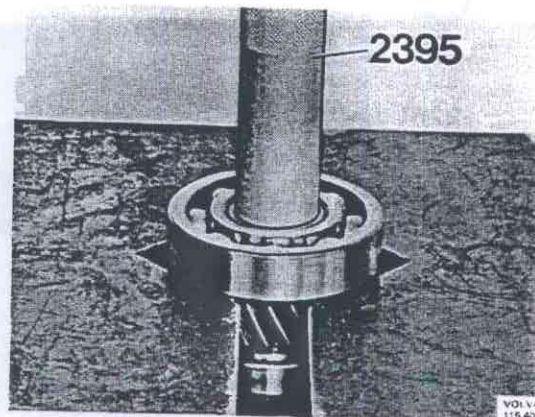

Fig. 43-154. Removing bearing
1. Place the cluster gear in a press, see Fig. 43-154, and press off the bearing with 2395.